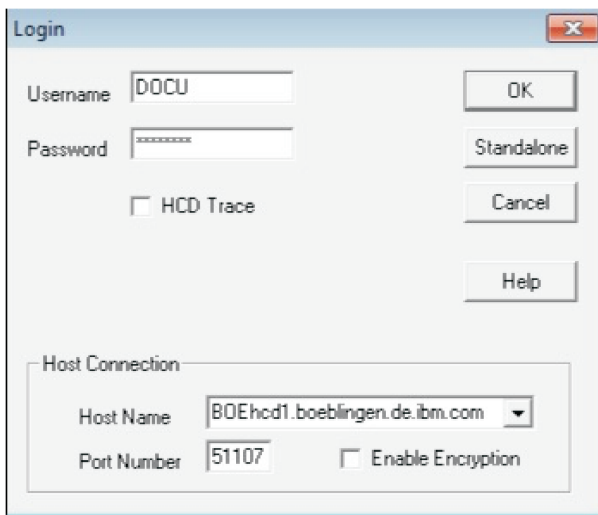

Figure 4. Login dialog
4. Enter user ID (default: CBDIODSP) and password of your service virtual machine (SVM) into the **Login** dialog (see also Figure 4 on page 25). Use the TCP/IP host connection with the hostname or IP address of your SVM and your port number (51107 is the default).